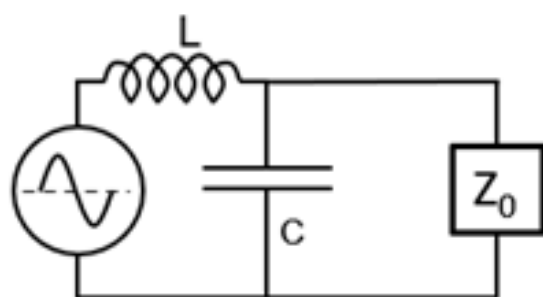

Figure 2. Incremental View of Transmission Line
We just need to solve for the Z of the circuit in Figure 2, as seen by the source. If all goes well, it is indeed Z_0 . In simple terms it is just:
Now let's turn our attention to how fast a wave will move through our cable. We will use our same incremental approach as shown in Figure 2 – add a tiny piece of cable and see how long the signal takes to move along it. So, what does it mean for the signal to move through our tiny inductor and capacitor? Well, it really means, how long does it take to charge the capacitor to the applied voltage. If it takes Δt to charge the capacitor, then the wave speed (V) will be given by $\Delta x / \Delta t$.